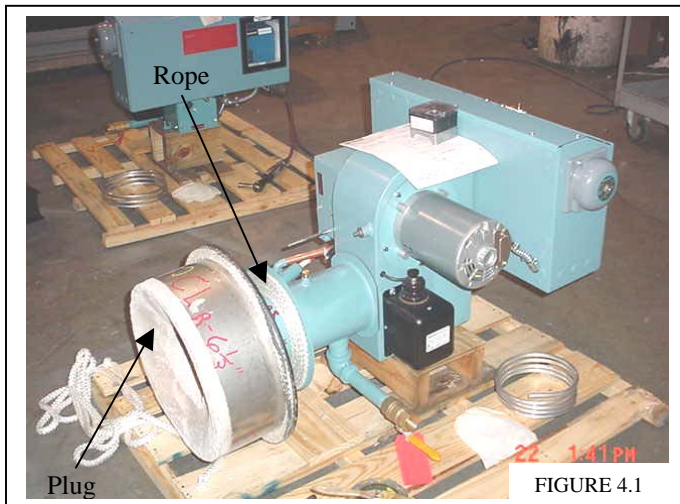

FIGURE 4.1
- 4.5 Install the burner plug (refractory front plate) onto the burner assembly using a length of rope gasket around burner insertion tube to seal the burner to the plug. See Figure 4.1. Bolt the burner to the plug using the nuts and clamps provided.